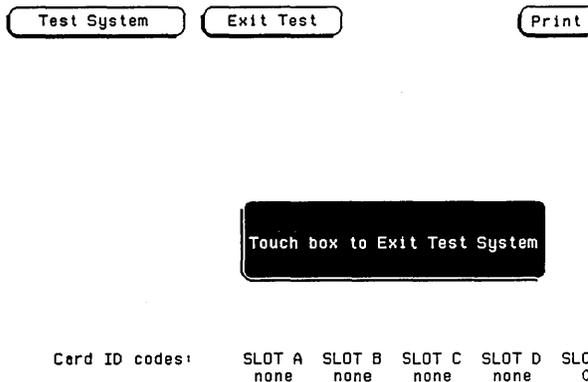

Figure 6-8. Exit Test System
- l. Touch the box to Exit Test System. See figure 6-8.